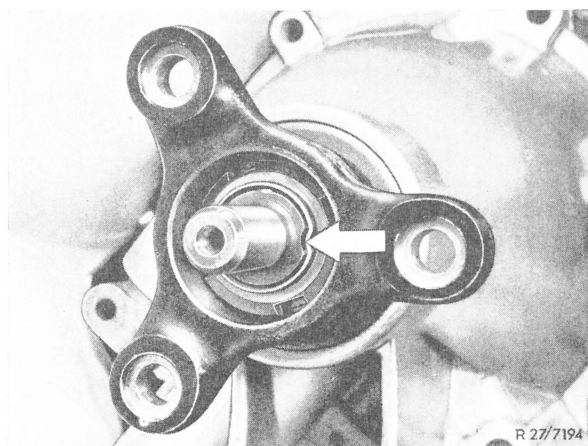

Fig. 44
**71** Plug three-legged flange on output shaft and tighten slot nut to 120 Nm (12.0 kpm), lock slot nut (arrow in Fig. 44).